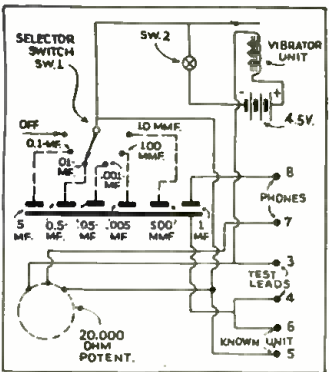

Fig. 3. Condenser tester.
**CONDENSER TESTER.** Where power lines are not available, the bridge-type condenser tester described in the July, 1935 issue of *Radio-Craft* may be adapted for use with batteries by means of the circuit shown in Fig. 3. A high-quality buzzer should be used in order to insure a steady, pure tone. It will be seen that the buzzer takes the place of the winding of the power transformer, while the remainder of the circuit is very similar to the original. The operation is identical with that of the original.